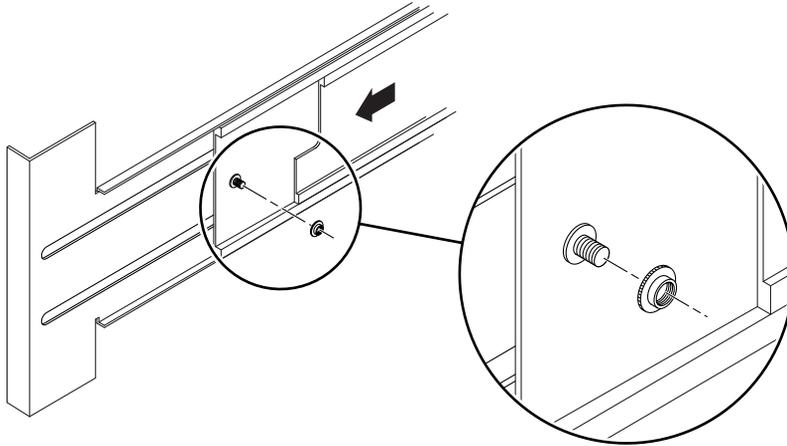

FIGURE 3-11 Inserting and Tightening the Spacer
3. From the rear of the system, insert and tighten the supplied spacers onto the bolts (FIGURE 3-11).
3. From the rear of the system, remove the threaded washer from each bolt, which is connected to the slide (FIGURE 3-11).